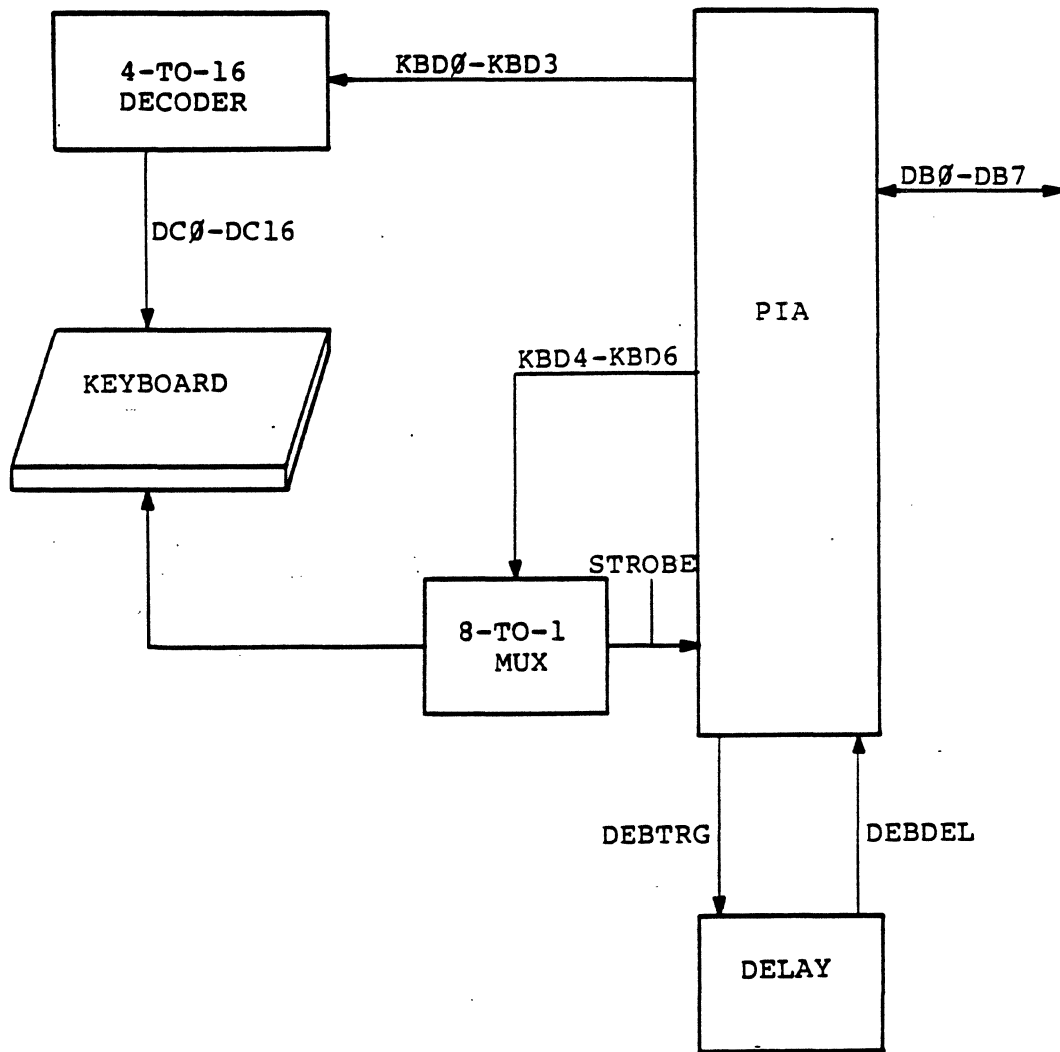

Figure 6-9. Keyboard Section
6.3.5 Keyboard Section (Figure 6-9)